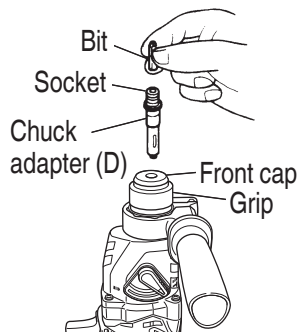

Fig. 17
4. When driving machine screws (**Fig. 17**)
5. When driving wood screws (**Fig. 17**)